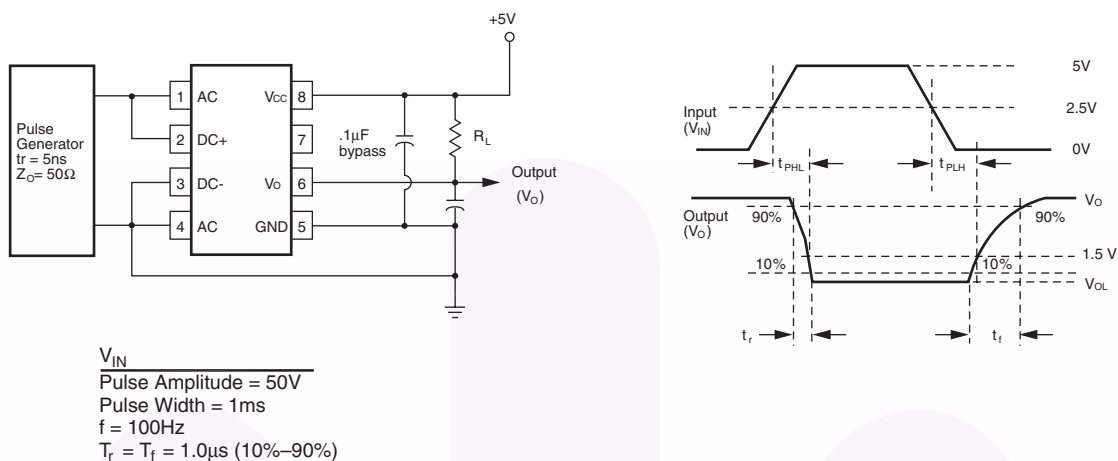

Fig. 9. Switching Test Circuit
- T_{PHL} propagation delay is measured from the 2.5V level of the leading edge of a 5.0V input pulse (1μs rise time) to the 1.5 V level on the leading edge of the output pulse. T_{PLH} propagation delay is measured on the trailing edges of the input and output pulse. (Refer to Fig. 9)